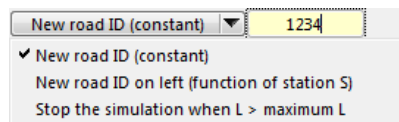

Figure 45. Drop-down control to choose an option for reaching an edge boundary.
- ⑩ Drop-down control to specify what happens when a point of interest reaches the left boundary of the road (Figure 45).
an adjacent yellow field (Figure 45, keyword = ROAD_NEW_ID_CONSTANT). Another control is shown to specify how station is estimated on the new road ⁽¹¹⁾.